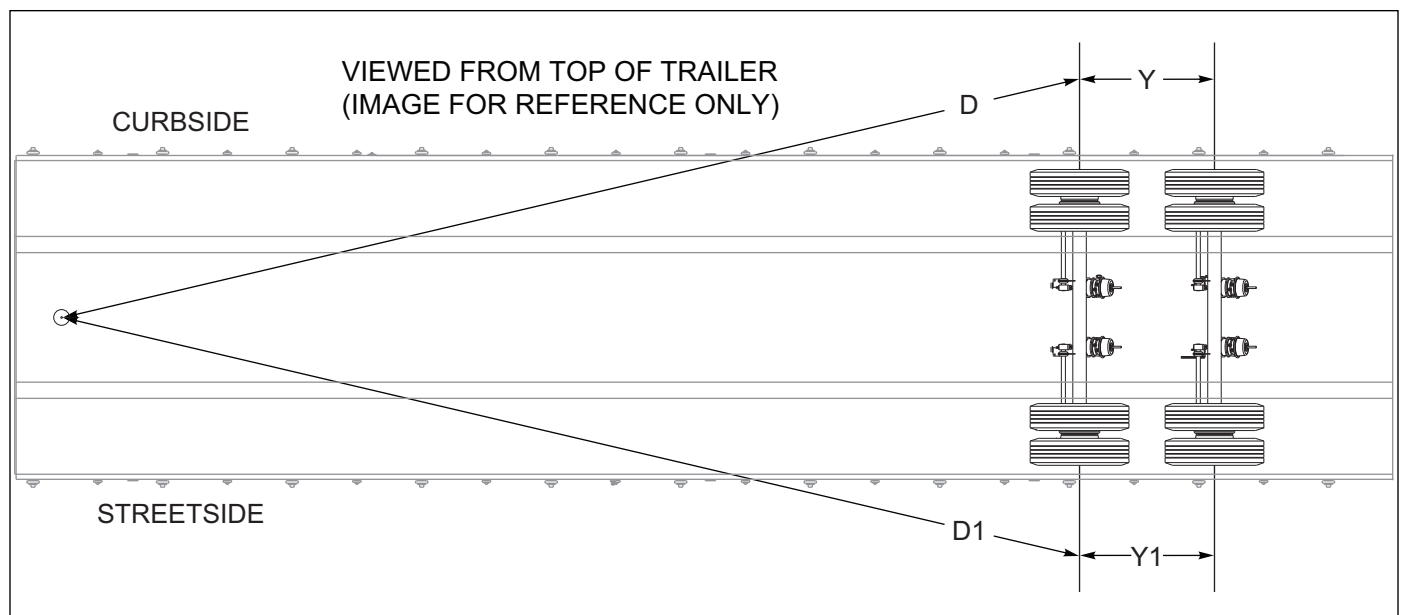

Figure 4-8: Checking Axle Alignment
5. Measure **Curbside (D)** from the plumb bob to the 1st axle center. Measure **Streetside (D1)** from the plumb bob to the 1st axle center. **Curbside (D)** should be about 1/8 inch (3.175 mm) shorter than **Streetside (D1)**. *See Figure 4-8.*
2. Measure from 1st axle center to the trailer 2nd axle center on the curbside then the streetside. Measurements should be the same. Use (Y) and (Y1) as reference. **See Figure 4-8.**